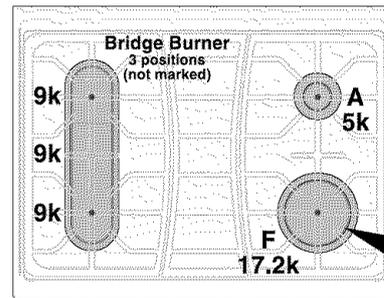
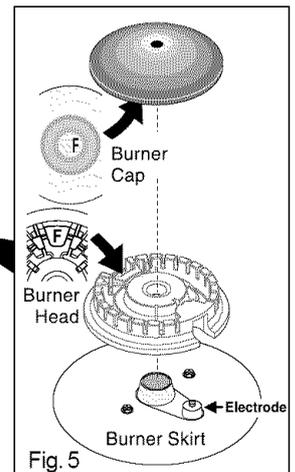
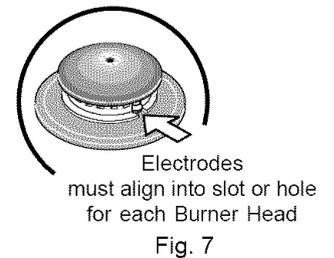

Fig. 4
Fig. 5
Fig. 7
- Remove all packing tape from cooktop. Remove Burner Caps and Burner Heads (See Fig. 4).
- To replace Burner Heads & Caps, match the letters located under center of Burner Caps with the letters located inside Burner Head (only positions A & F are marked with letters - See Fig. 5). Place all Burner Heads & Caps on the cooktop (See Fig. 4) while carefully aligning the Electrodes into slots or holes of the Burner Heads (Fig. 7). Note: The Burner Heads should sit flat on Cooktop Burner Skirts.